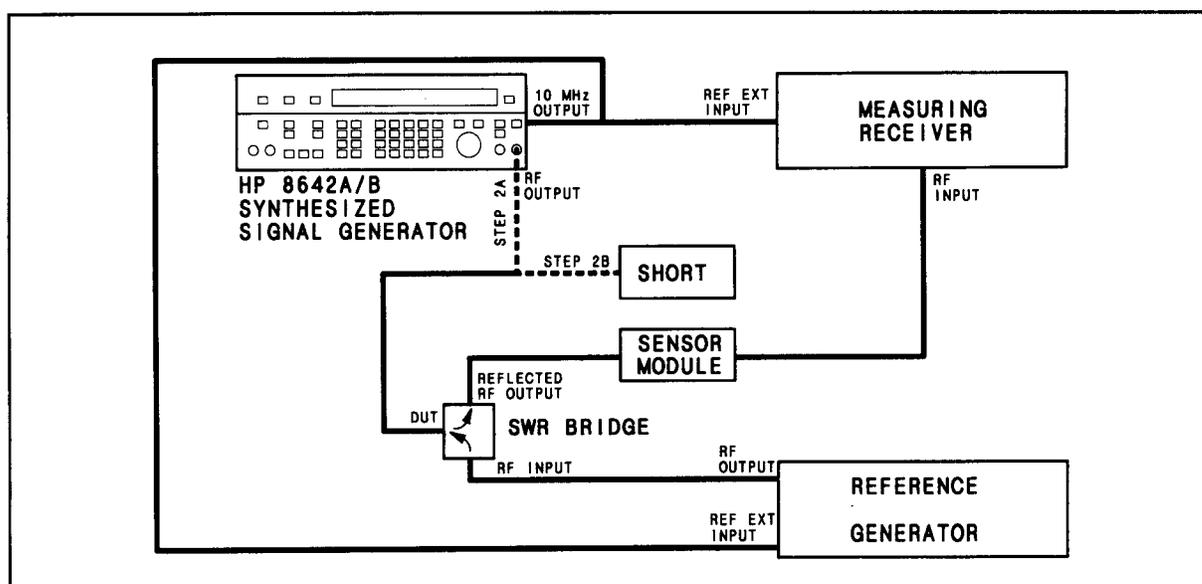

Figure 4-8. SWR Test Setup
1. Connect the instruments as shown in Figure 4-8 Setup A.
1. Connect the instruments as shown in Figure 4-8 Setup B.
1. Re-connect the instruments as shown in Figure 4-8 Setup A.
- Connect the instruments as shown in Figure4-8 Setup A.